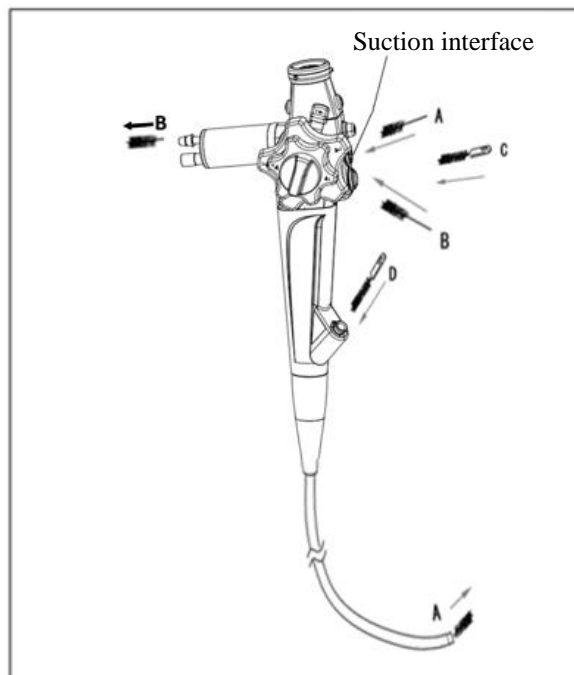

Figure 7.12
During the immersion of the endoscope, brush the appliances and suction tube, suction interface and clamp pipe opening according to the following procedures (as shown in Figure 7.12).
3. As shown in Figure 7.12(A), insert the tube cleaning brush into the opening on the side wall of the suction interface at a 45° angle. Gently tap and insert the cleaning brush from the insertion section until the brush head extends out of the tip of the endoscope.
2. As shown in Figure 7.12(B), insert the tube cleaning brush straight into the opening of the suction interface. Gently tap and insert the general-purpose cable into the cleaning brush until the brush head extends from the suction interface of the light guide plug.
1. As shown in Figure 7.12(C), insert the tube opening cleaning brush into the clamp pipe opening until the brush handle touches the tube opening.
1. As shown in Figure 7.12(D), insert the tube opening cleaning brush into the clamp pipe opening until the brush handle touches the tube opening.